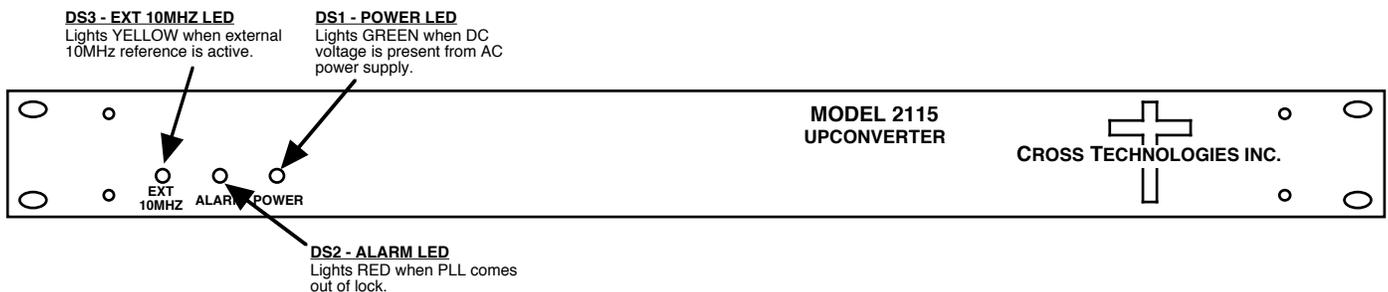

FIGURE 2.2 2115-222 Front Panel Controls and Indicators
4. Be sure DS1 (green, DC Power) is on and DS2 (red, Alarm) is off (Figure 2.2).
6. If EXT is selected or AUTO is selected and there is a 10MHz, +3 dBm signal at J2, check that DS3 (yellow, Ext 10MHZ) is on (Figure 2.2).